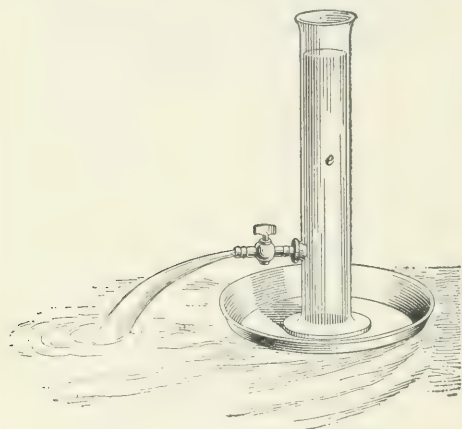

FIG. 7.
15. The effects of lateral pressure are illustrated in Fig. 7. In the figure, *e* is a tall vessel having a stop-cock